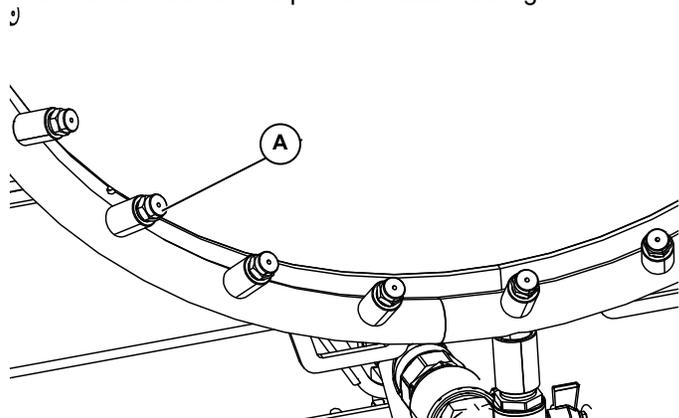

Figure 4-1. Cleaning the Unit
See *Figure 4-1*. After each use, rinse nozzles (A) with an antilimestone solution to prevent nozzle fouling.